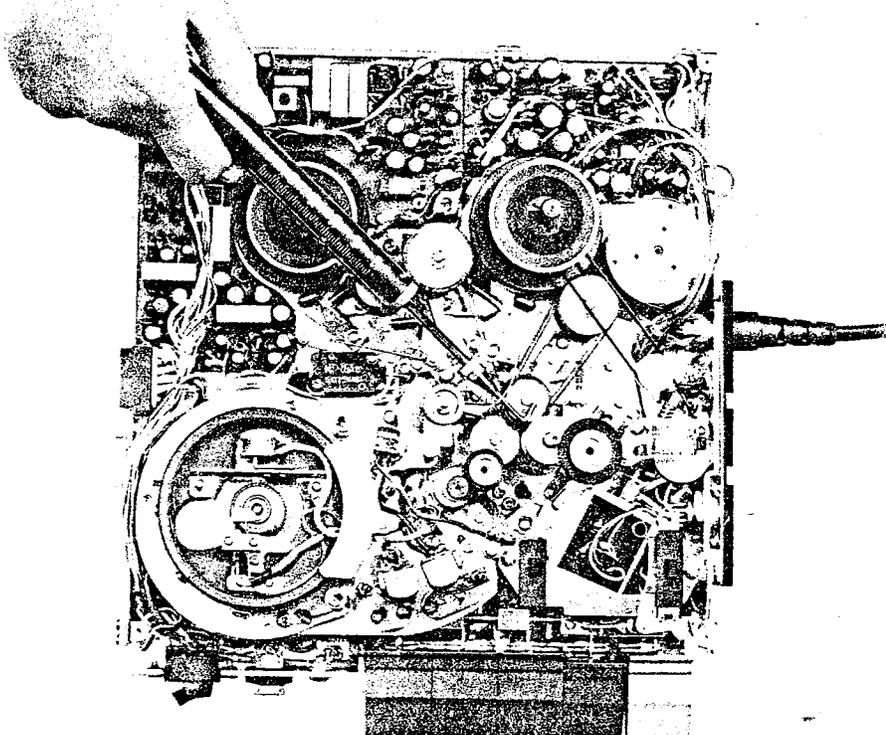

Fig. 5 Drive Idler Pressure Measurement
- (b) Measure Drive Idler Pressure by connecting a 0 to 500 gram Spring Gauge to the upper part of Drive Idler Shaft as shown in Fig. 5. At playback mode, the moment the Drive Idler Revolutions stop, read the value on the Spring Gauge. Specified value is 280 to 350 grams.